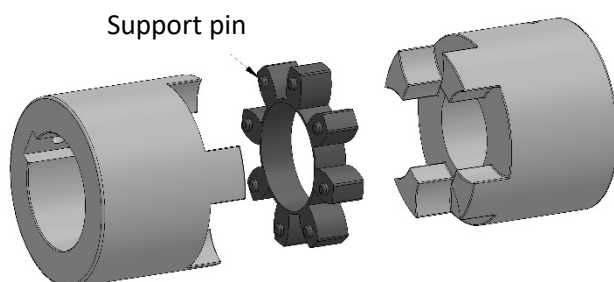

Fig.3
2. Insert the rubber shim on the toothed hub so that the support pins are in contact with the reference surface (Fig. 3, 4).